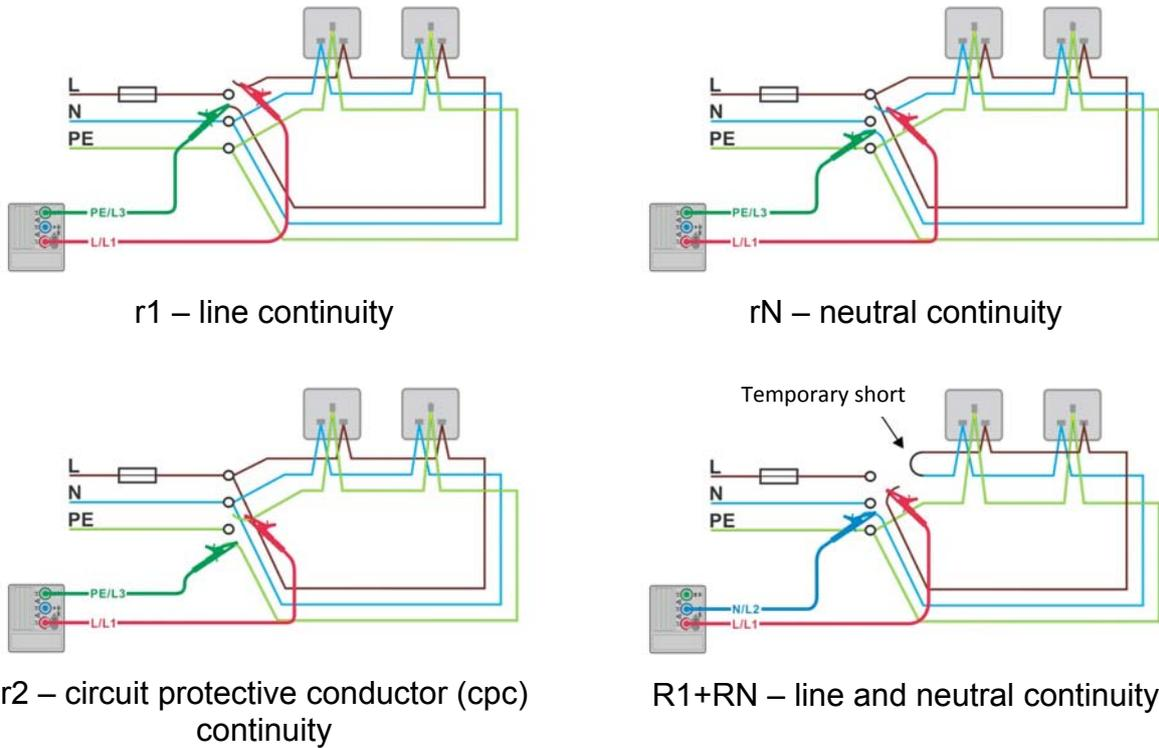
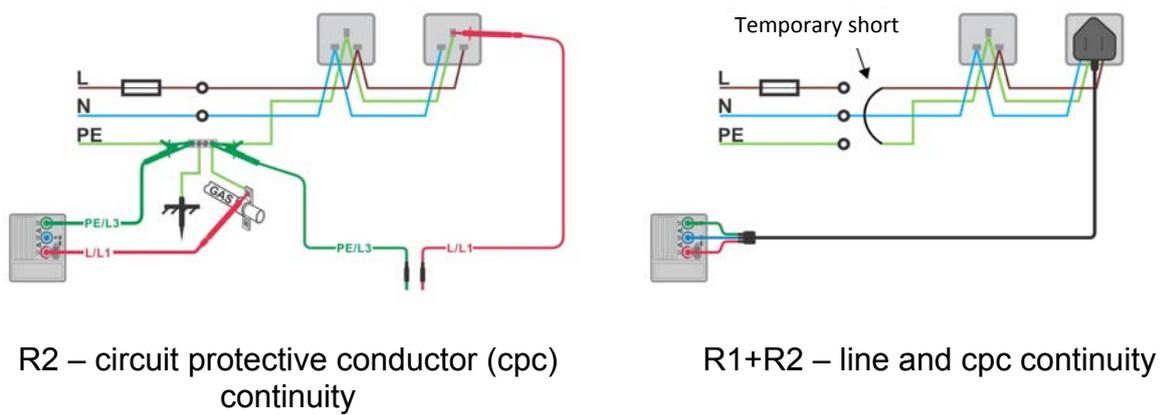

Figure 5.10: Connections for testing the r1, rN, r2 and R1+RN sections of the wiring in ring circuits
Figure 5.11: Connections for testing the R2 and R1+R2 sections of the wiring in final circuits
- ❑ **Connect** the test leads to the installation wiring to be tested (see *Figure 5.10* and *Figure 5.11*:).